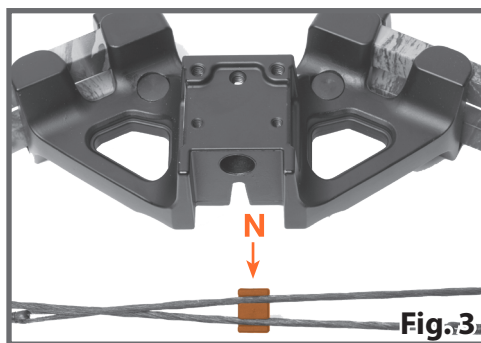

Fig. 3
1. Attach the cable slide to the cables. The cable slide has a larger gap on one side to properly slide onto the rail. (Fig. 3)